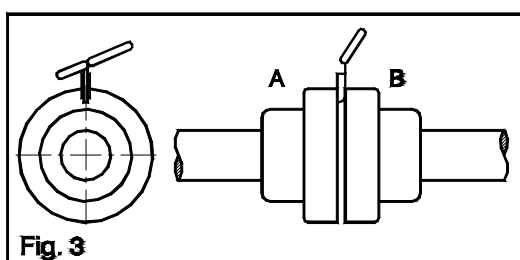

Fig. 3
**Errors of angularity** : Correct before any attempt is made to eliminate errors of eccentricity. The procedure is shown in Fig. 3 using a thickness gauge in conjunction with filler gauges. Readings should be taken in positions 1,2,3 and 4 with any axial float taken up. Adjust units by shimming under feet.